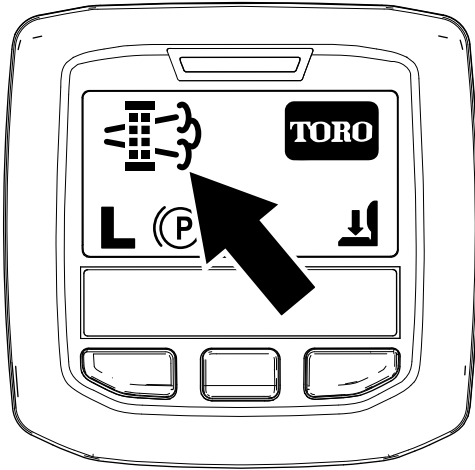

Figure 64
- When the engine computer requests either a parked regeneration or a recovery regeneration, the regeneration request icon (Figure 64) displays in the InfoCenter.